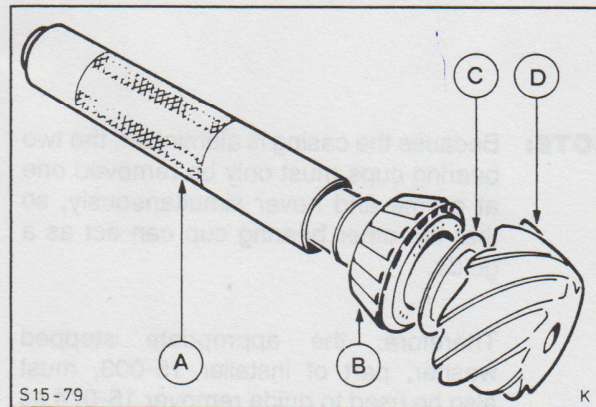

Fig. 43. A - Installer 15-042
18. Press a new taper roller bearing onto the pinion with a measured shim exactly 1 mm thick, Fig. 43.